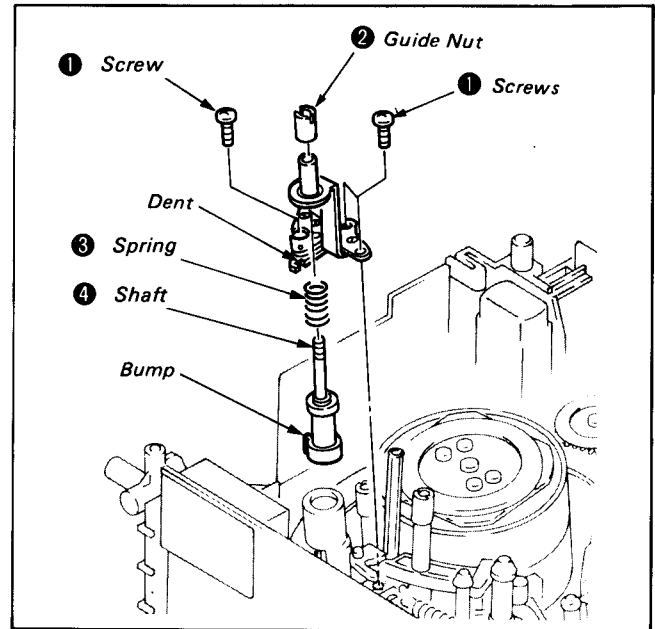

Fig. 8-53.
- 2) Remove three screws ① and No. 5 guide assembly.
- 3) Remove the guide nut ②, the spring ③ and the shaft ④. (See Fig. 8-53.)
- 1) Reinsert the spring ③ in the shaft ④, reengage the dent and bump in the lower parts, and tighten the guide nut ②.
- 2) Remount the No. 5 guide assembly and tighten three screws ①. (See Fig. 8-53.)